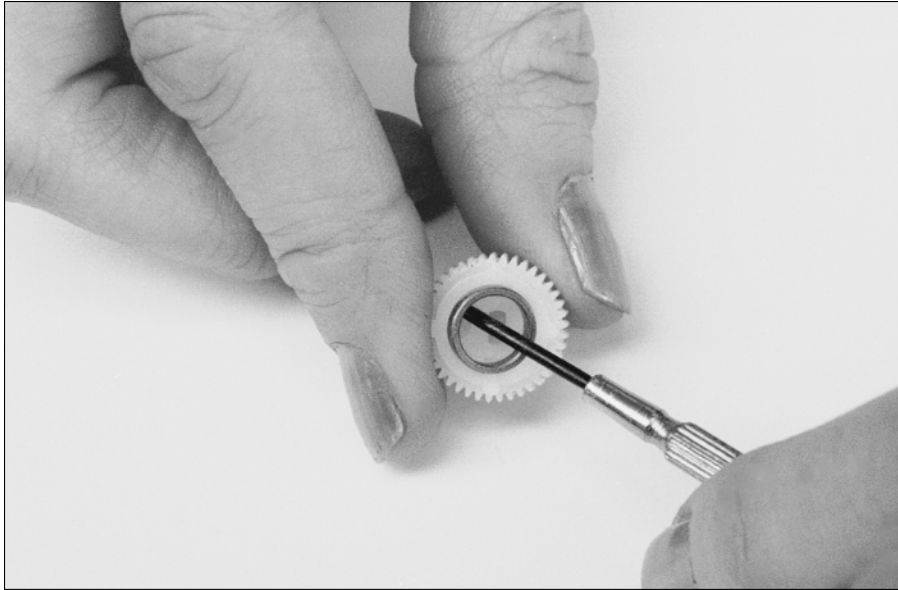

Figure 15-17:
10. Remove the metal retaining ring from the underside of the output gear (Figure 15-17), using the small-bladed screwdriver.